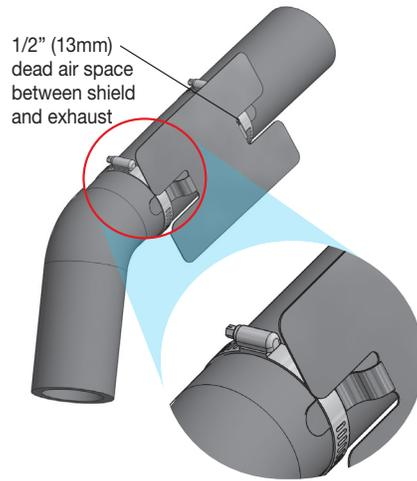

Fig. 28
1. Attach the metal heat shield to the exhaust where it is closest to the passenger's (right) side air spring. Slide the air line thermal sleeve onto the air line on the passenger side and push into position against the fitting. (Fig. 28)